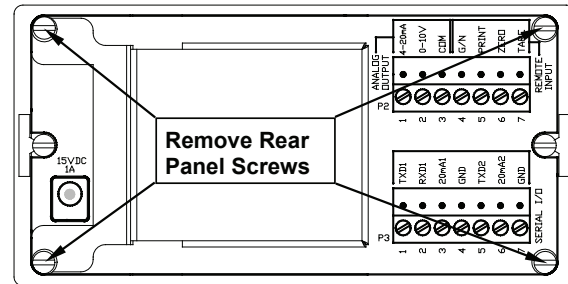

Figure No. 2
2. Referring to Figure No. 2, remove the 4 screws securing the rear panel to the enclosure.